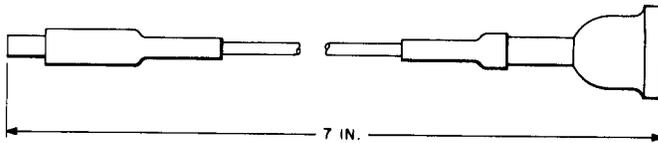

Fig. 18—738A Clutch Test Probe Tool
2.18 738A: The 738A clutch test probe tool (Fig. 18) is used to connect the terminals of the wiring field to the rear of the equipment. This tool is equipped with a clutch test connector on one end and the other end with a scope adapter arranged for direct connection to an oscilloscope.